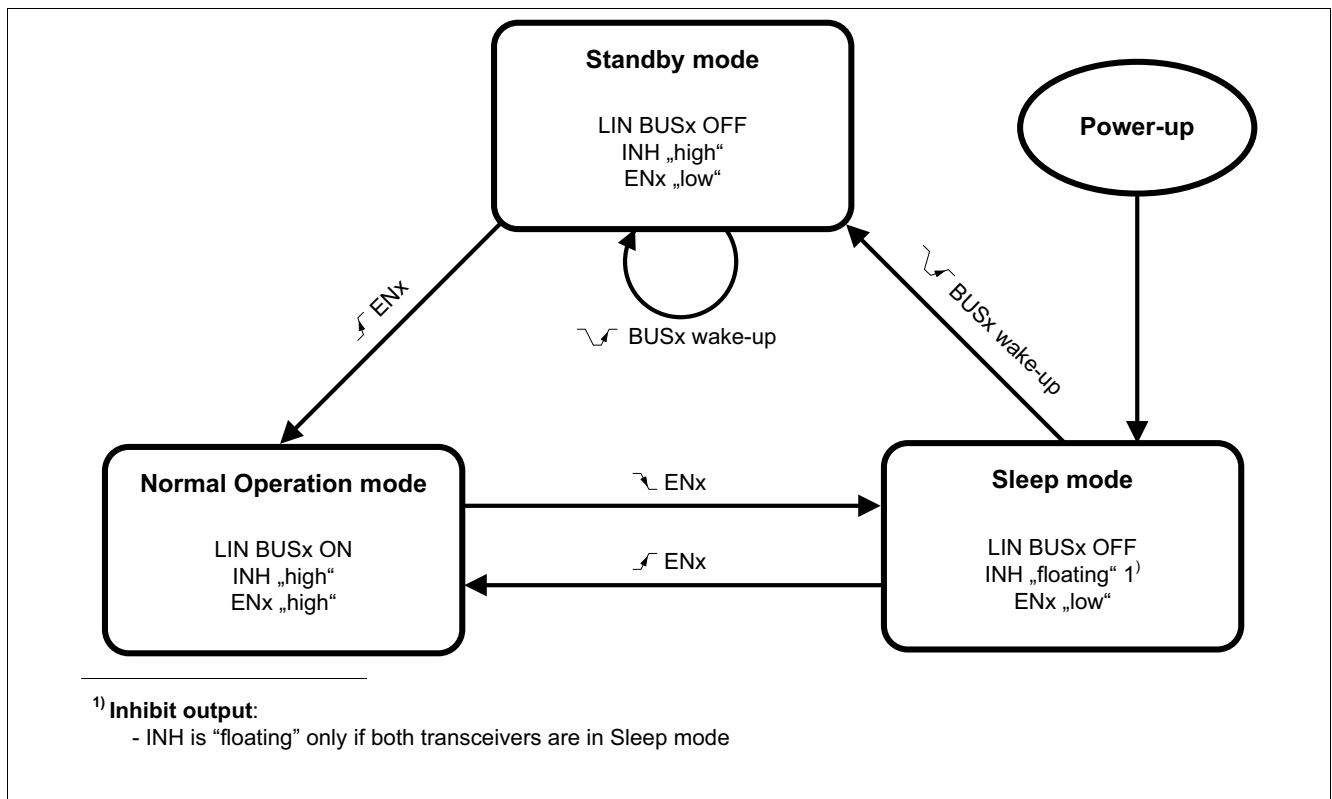

Figure 4 Operation mode state diagram
The transceivers of the TLE7268 have the following major operation modes (see **Figure 4**):
- The RxDx output indicates a wake-up event (see Figure 4).